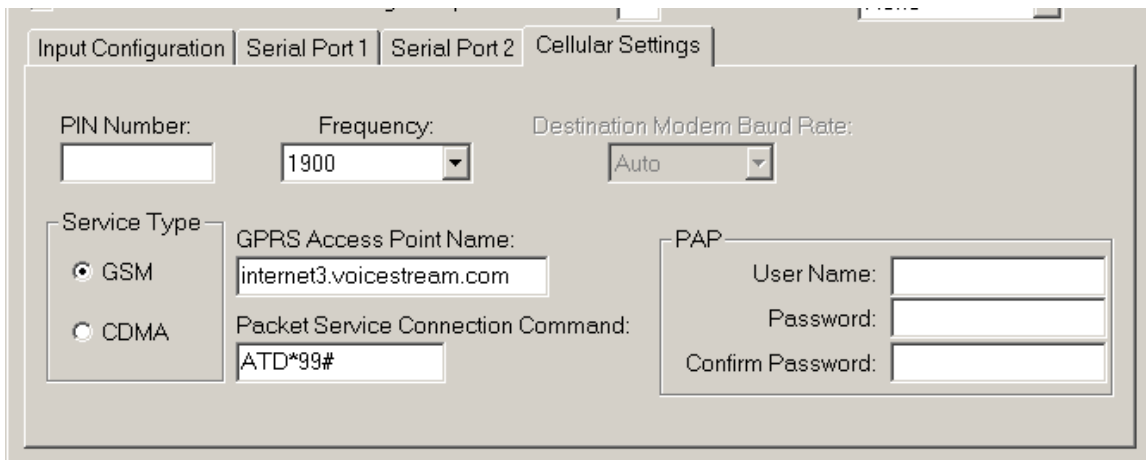

Figure 28 – CNI Configuration – Cellular Settings
6. The Cellular Settings tab shown in Figure 28 is where you will configure settings required to allow the CNI to initiate communications with the InvisiConnect™ server. The cellular carrier you have chosen should supply this information. The sample settings shown here show T-Mobile as the carrier.